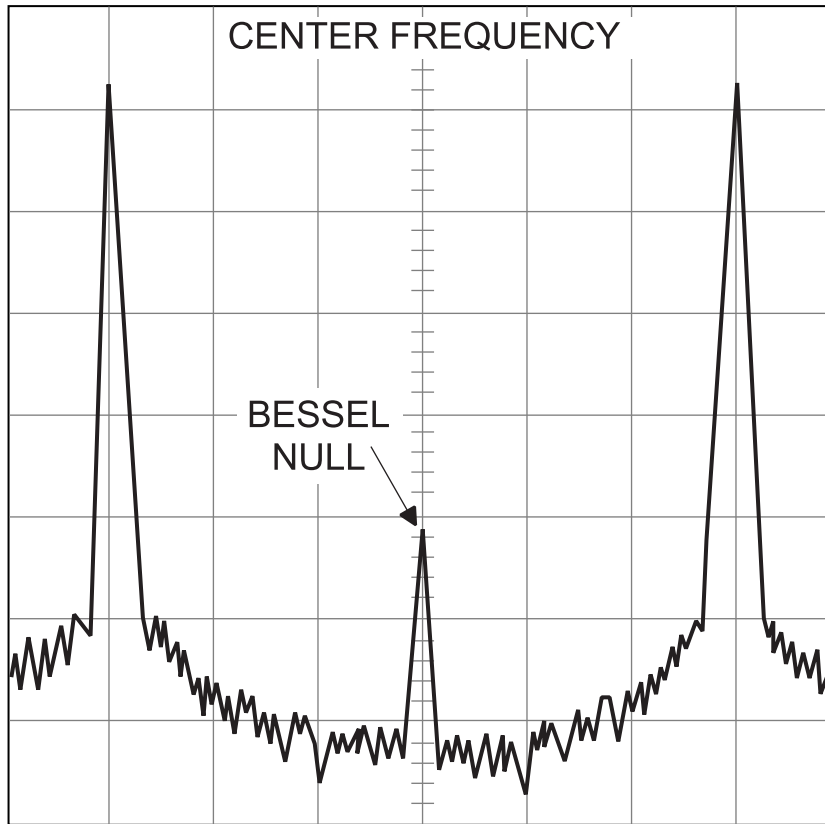

Figure 5-14. Typical Spectrum Analyzer Display of a Bessel Null on an FM Waveform
- e. While observing the first Bessel null (Figure 5-14 on page 5-38) on the spectrum analyzer display, adjust the value of the DAC setting to reduce the carrier level as low as possible.
Note Figure 5-14 is for example only. During the calibrations, the above picture is not viewed because the settings on the spectrum analyzer zoom into the Bessel Null's peak.
- g. While observing the first Bessel null (Figure 5-14) on the spectrum analyzer display, adjust the value of the DAC's setting to reduce the carrier level as low as possible.